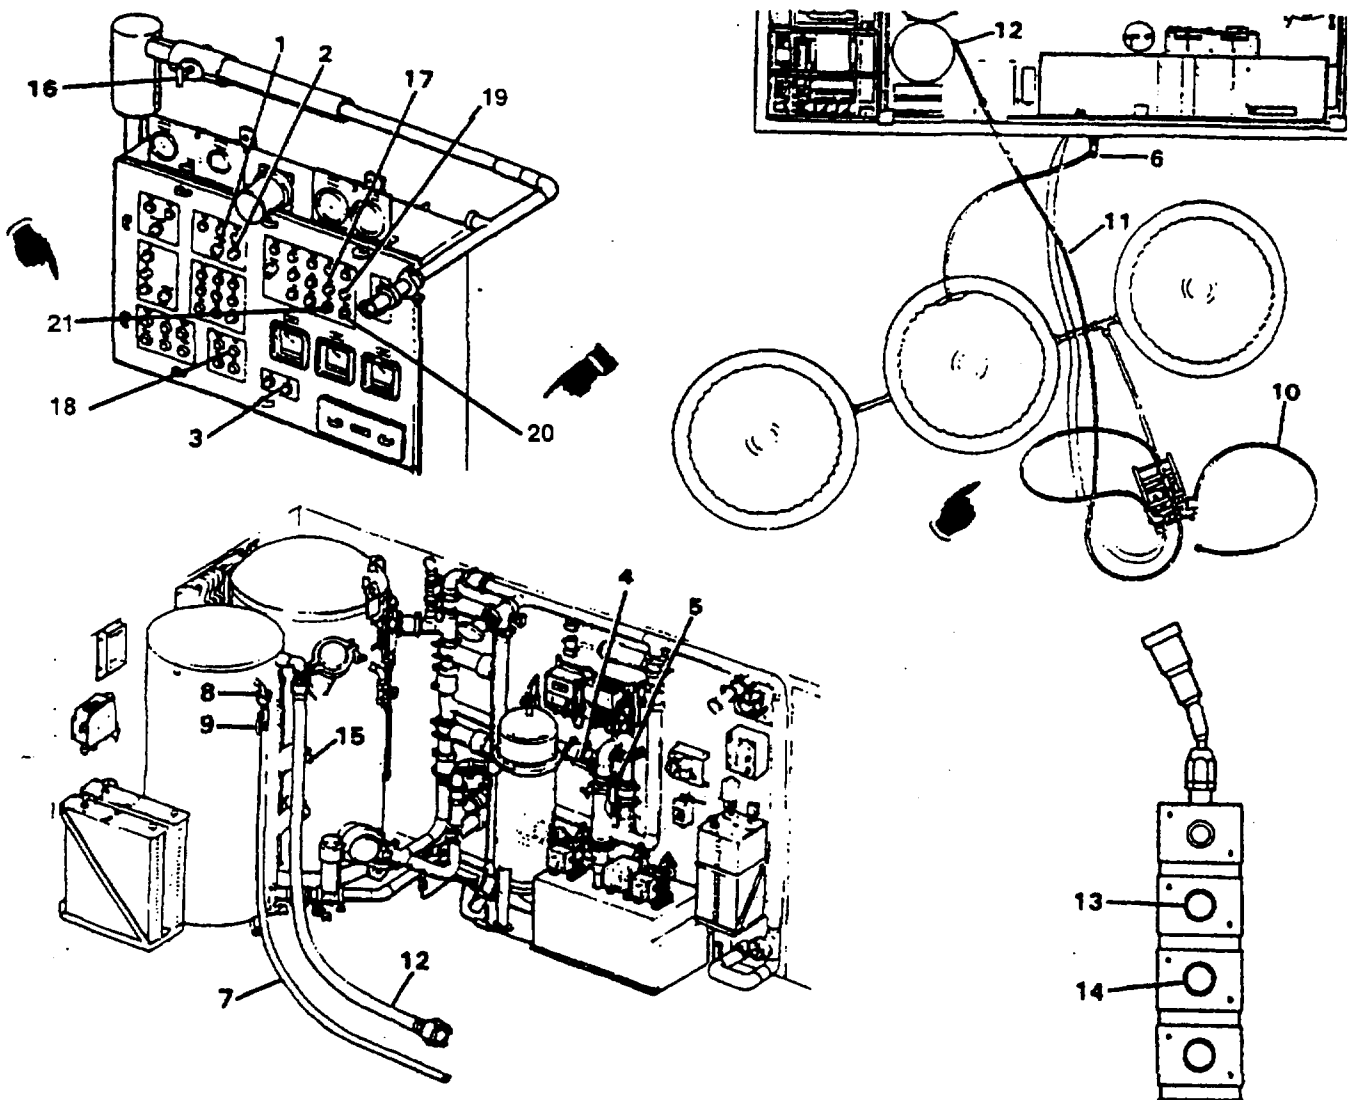

Figure 2-59. Preliminary Flush
b. *Preliminary Flush (Figure 2-59).* The following preliminary flush must be made before any cleaning procedures can begin.
- (1) Set valves and hoses.
- (a) Close feed valve (4). Open clean bypass valve (5).